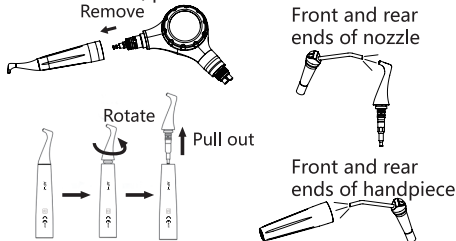

Figure 10 Schematic diagram of handpiece cleaning
① Remove the handpiece of the air polishing gun, unscrew the spray-head and pull out it, as shown in Figure 10;
② Aim the air gun at the nozzle and blow out the powder inside the nozzle;
③ Use an air gun to blow the front and rear ends of the handpiece to clean the remaining moisture on the handpiece.
④ If the nozzle is blocked, please use the needle to clear it.